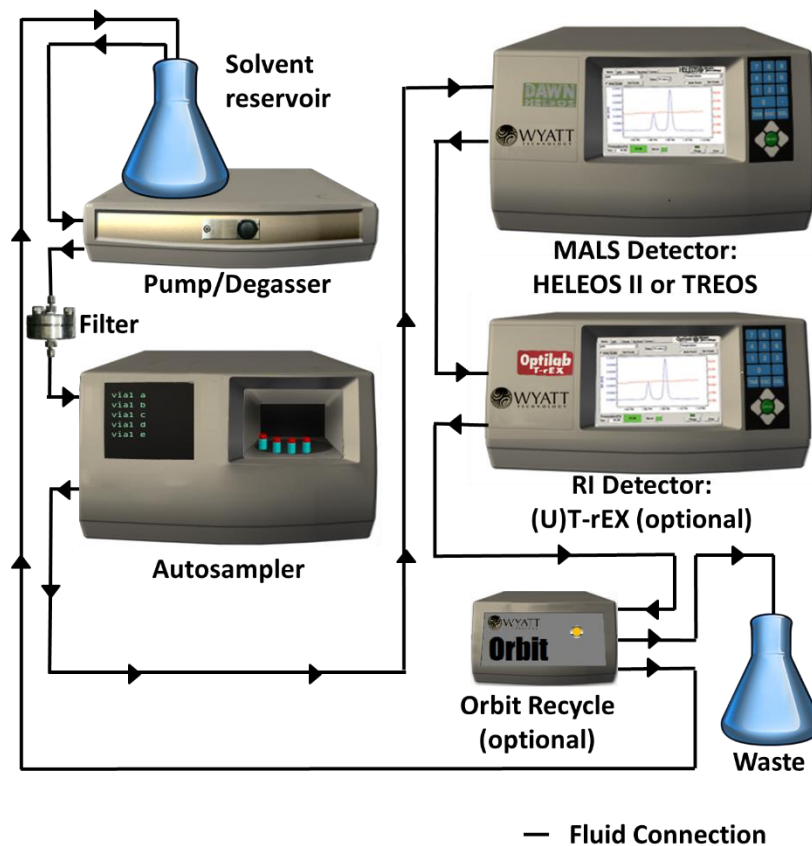

Figure 5. The flow path used for checking the noise of the autosampler.
- 1) Add the autosampler into the flow path. See Figure 5.